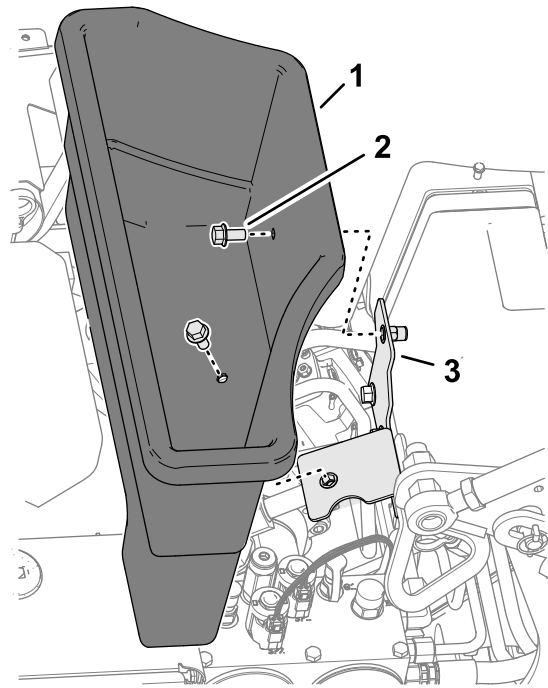

Figure 126
3. Remove the 2 flange head bolts that secure the storage bin to the bin bracket (Figure 126).